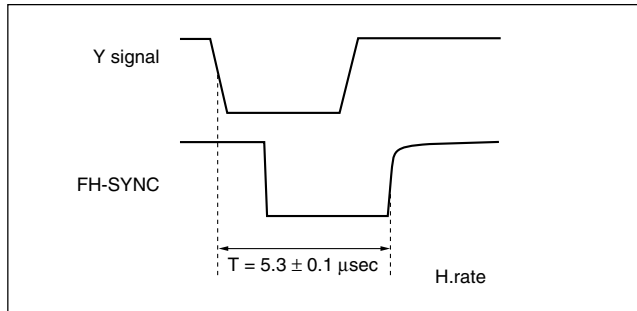

Fig. 3-6-1 FH SYNC position
- (1) Connect channel 1 of the oscilloscope at CN1 pin 14.
- (2) Connect channel 2 of the oscilloscope at TP1 round (FH SYNC).
- (3) Observe two waveforms, then adjust VR1 so that the waveforms timing width becomes $5.3 \pm 0.1 \mu\text{sec}$ as shown in Fig. 3-6-1.